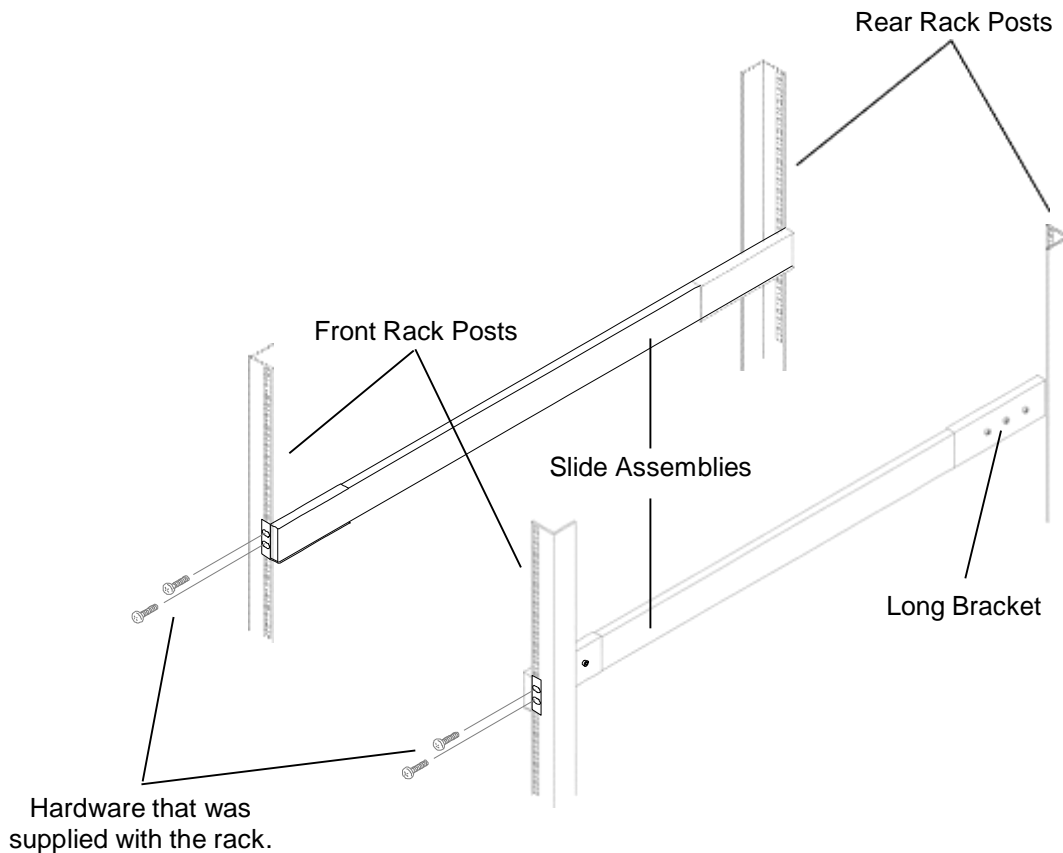

Figure 5-21 Slide Assemblies Being Attached to the Front and Rear Rack Posts
5. Position a slide assembly between the front and rear slides so that the brackets are touching the outside of the rack posts and the holes in its brackets align with the mounting positions chosen in Step 1. Make sure that the mounting bracket tabs are facing towards the outside of the rack and that the long bracket is at the rear of the rack. Refer to Figure 5-21.